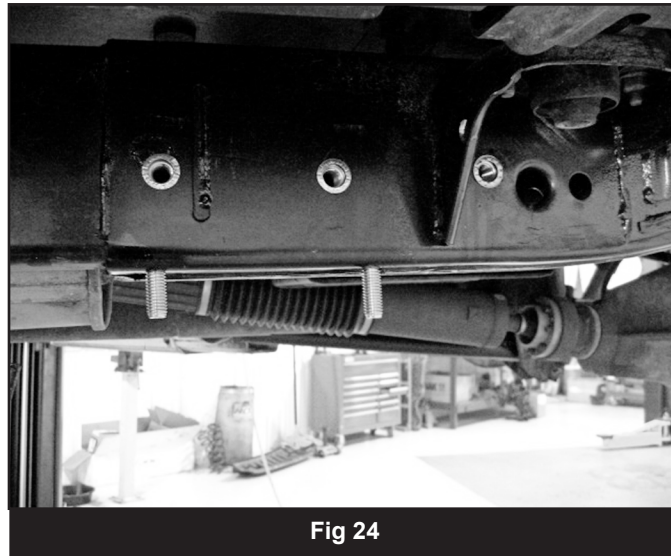

Fig 24
17. Drill holes at the marks to the same sizes as on passenger's side. Use the drill template to locate the body mount hole. (Fig 24). The 3 holes into the side of the frame rail will need to be drilled to 11/16" to accept rivet nuts. The hole thru the body mount will be 1/2" and the 2 holes that run from the bottom - up into the frame will need to be 9/16"
19. Use the fish wire to pull bolt tabs (01797) through the frame into the 2 bottom holes (Fig 24).